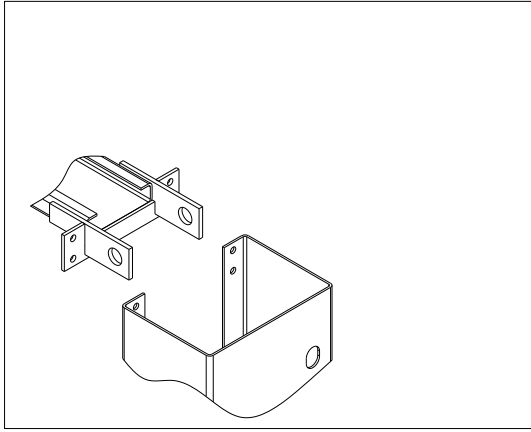

Fig. 31
- ◆ Connect crossbeams to both columns according to Fig. 31. (Notice that the limited switched is inside the main column.)